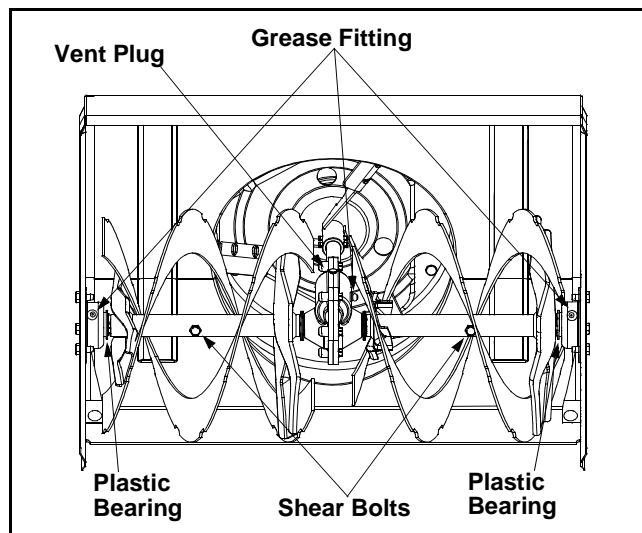

Figure 12
The gear case is equipped with a grease fitting on the left housing and should be lubricated with Shell Alvania grease EPR00, part number 737-0168 every 25 hours. See Figure 12.
At least once a season, remove the shear bolts on the auger shaft. Spray lubricant inside the shaft. Also lubricate the plastic auger bearings at least once a season and grease the fittings on the end of the auger shaft with a standard grease gun. See Figure 12.
- The augers are secured to the spiral shaft with two shear bolts and hex lock nuts. If you hit a hard foreign object or ice jam, the snow thrower is designed so that the bolts may shear. Refer to Figure 12.